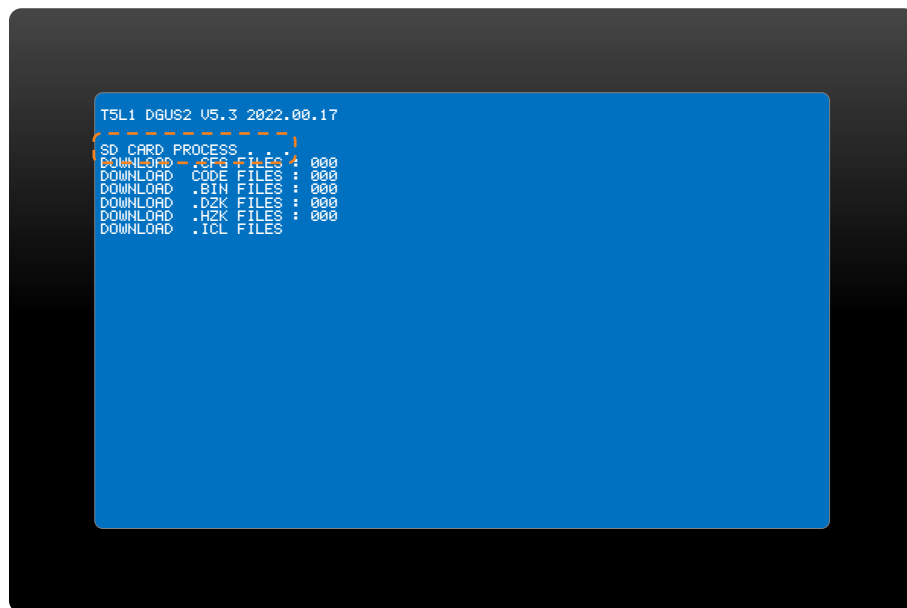

Figure 290 The firmware upgrade procedure is started
Step 5. The firmware upgrade procedure is started, and the “SC CARD PROCESS...” message shows on display. *(Figure 290)*